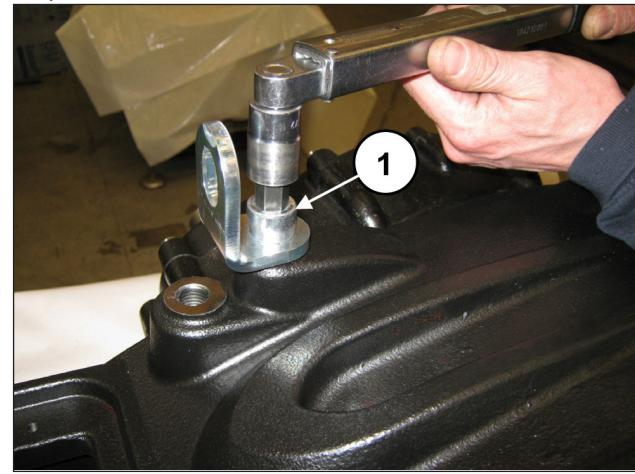

Fig. 93
Apply plugs and lifting brackets with the use of M16x30 screws (pos. ①, Fig. 93).